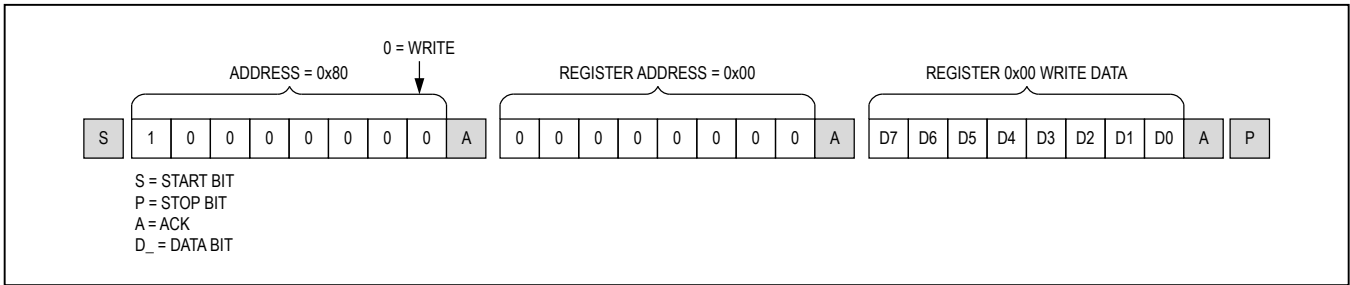
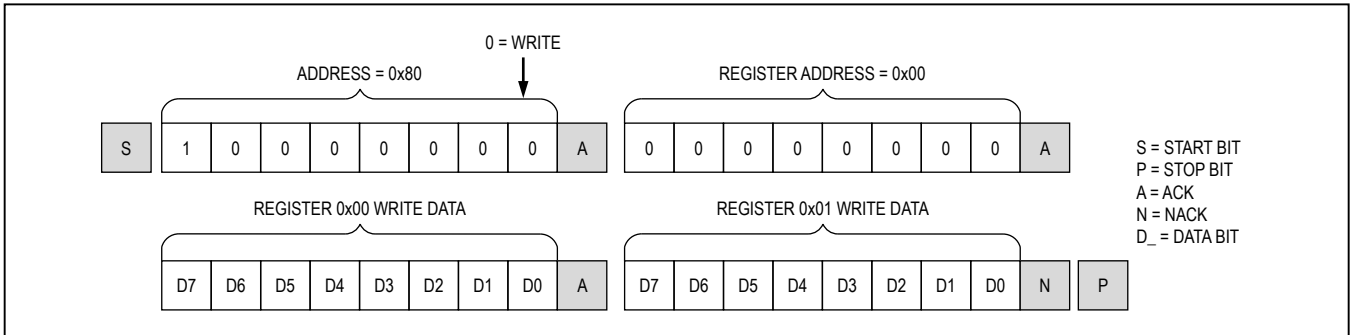

Figure 31. Format for I²C Write
Figure 32. Format for I²C Write to Multiple Registers
Writes to the serializers comprise the transmission of the slave address with the R/\overline{W} bit set to zero, followed by at least one byte of information. The first byte of information is the register address or command byte. The register address determines which register of the device is to be written by the next byte, if received. If a STOP (P) condition is detected after the register address is received, the device takes no further action beyond storing the register address (Figure 31). Any bytes received after the register address are data bytes. The first data byte goes into the register selected by the register address, and subsequent data bytes go into subsequent registers (Figure 32). If multiple data bytes are transmitted before